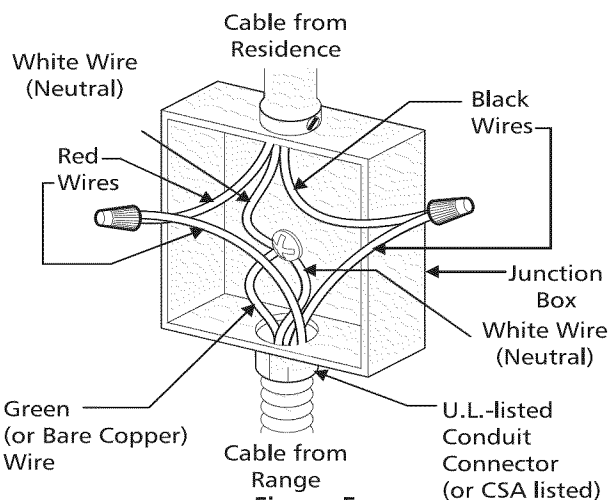

Figure 5
Where local codes permit connecting the appliance-grounding conductor to the neutral (white) wire (see Figure 5):
- In the circuit breaker, fuse box or junction box connect the appliance and residence cable wires as shown in Figure 5.